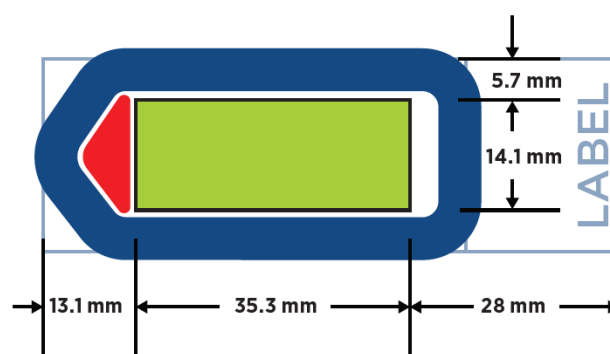

Figure 5: Slide dimensions
1. Tissue sections should be **5 μm** thick and mounted on **Superfrost Plus or BOND Plus slides**. Tissue sections must be placed in the **Scan Area** (shown in green) (see Figure 5) in the center of the slide and be **no larger than 35.3 mm long by 14.1 mm wide**. Mounted material should not overlap the slide gasket (shown in blue) or the Tip Calibration area (shown in red). If mounting multiple sections per slide, ensure that tissues are at least 2–3 mm apart and still fit within the Scan Area.